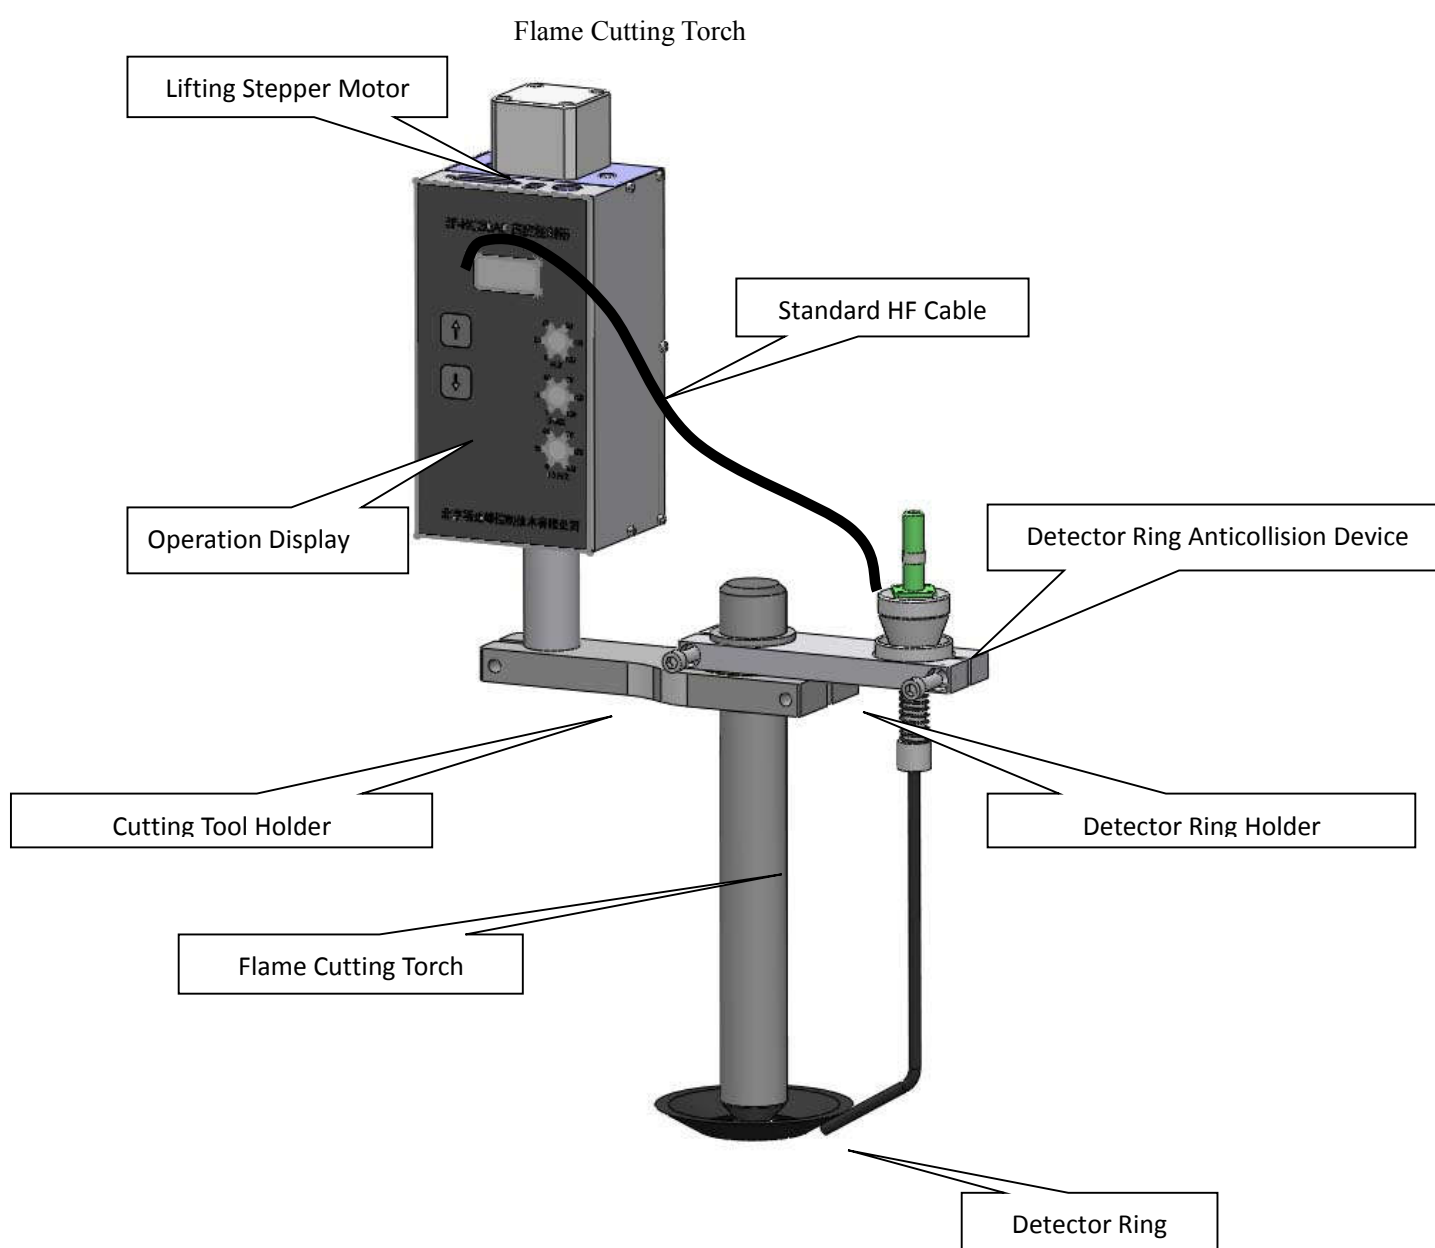

Fig. 3-1 Each Component Position, Name and Function of Controller
- For the names and positions of related components of height controller, please see Fig. 3-1.